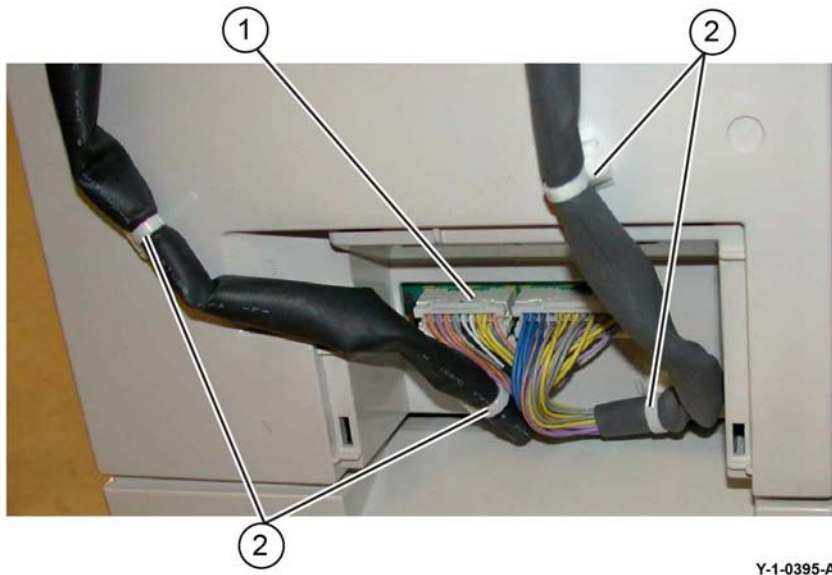

Figure 3 Booklet maker assembly disconnection
3. Disconnect the booklet maker assembly from the finisher, **Figure 3**:
- a. Disconnect the connector (1).
- b. Pull out the four cable ties (2).